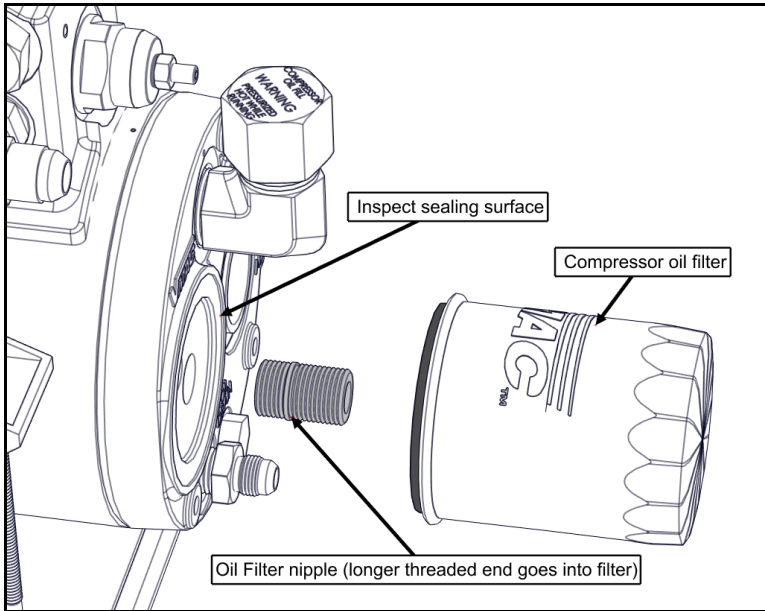

Figure 43 – Compressor Oil Filter
- 3) Check the gasket-sealing surface on the front of the tank for contamination, old gasket material, or damage (Figure 43).
Check the filter to ensure that the threaded nipple did not unscrew with the filter. If it is in the filter, remove it carefully to avoid thread damage, coat the threads that go into Separator Tank Base with a small amount of blue Loctite and install it into the Tank Base (Figure 43).